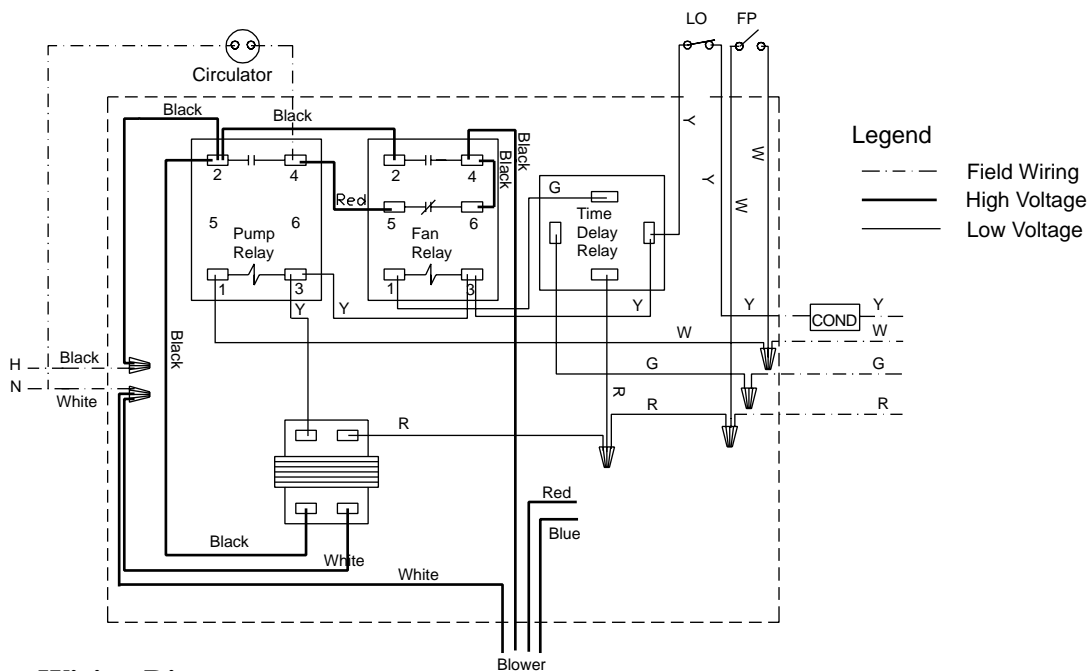

Fig. 1: Factory Wiring Diagram
7. Disconnect wire from LO-Switch from the control circuit. See Fig.1.
3. Reattached LO-Switch to the control circuit. See Fig.1.